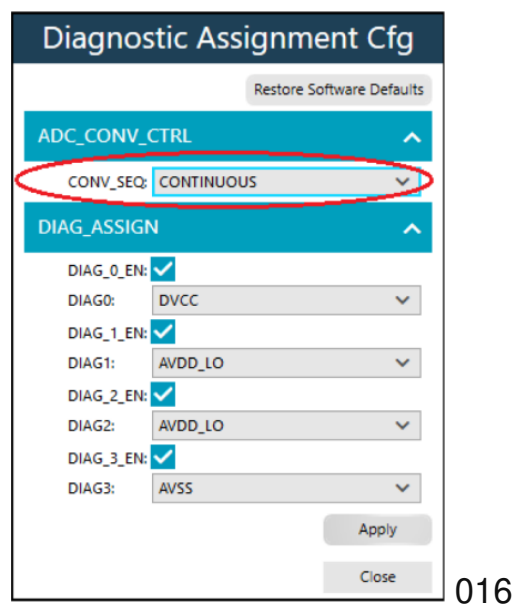

Figure 16. Start ADC Measurements
2. To start ADC measurements, in the **CONV_SEQ** area, select **CONTINUOUS**, as shown in Figure 16. This results in continuous measurement of the ADC.